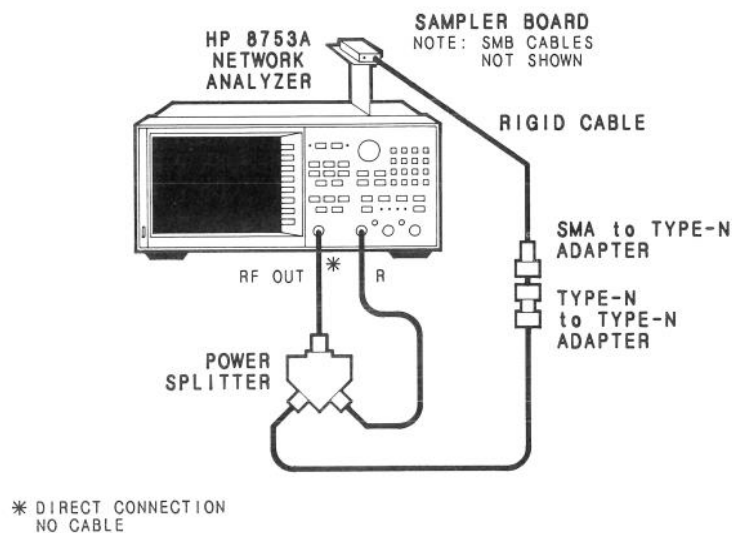

Figure 21. Cable Connections with Sampler on Extender Board.
11. Place the sampler board on the small extender board and reconnect the flexible SMB cable(s). Use extension cable(s) as required. Disconnect the cable on the front panel input R and reconnect it to the SMA connector of the sampler. Use the rigid extender cable, an SMA (f)/type-N (m) adapter and a type-N (f)/type-N (f) adapter as illustrated in Figure 21.